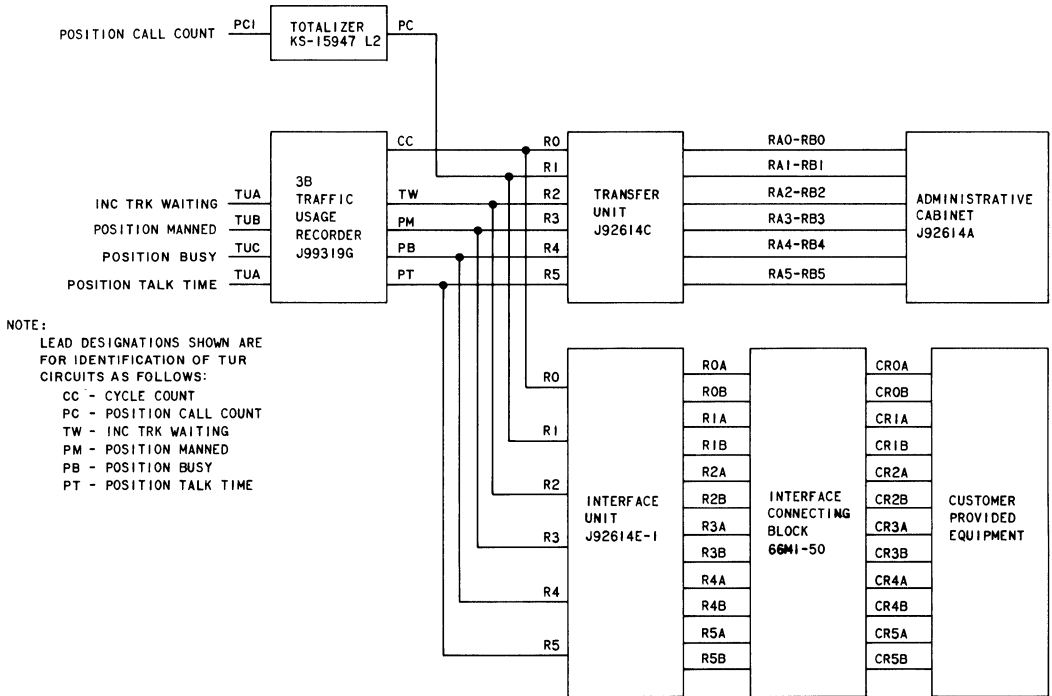

Fig. 3—Block Diagram of Connecting Arrangement C1Y With 2A ACD FADS
3.06 Refer to block diagrams shown in Fig. 3, 4, or 5 for basic ACD FADS System in use and follow the wiring plan shown in Fig. 6 and Table A.